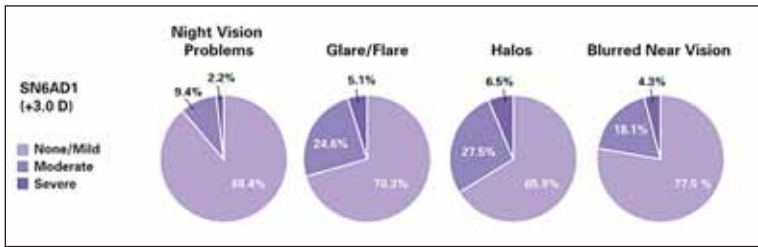
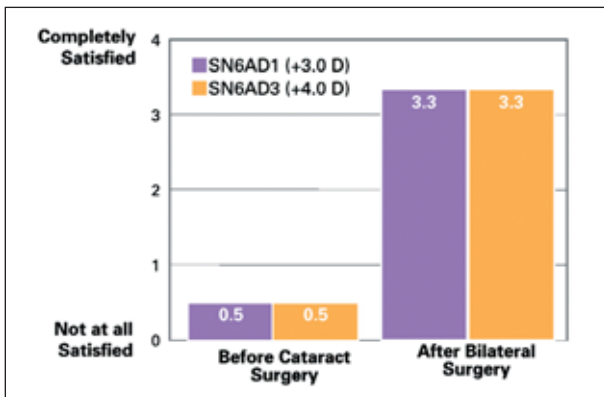

Figure 4. Visual disturbances 6 months after second-eye implantation of the AcrySof IQ ReSTOR IOL +3.0 D (SN6AD1).
Figure 5. Patients' overall postoperative satisfaction without glasses with both models of the AcrySof IQ ReSTOR IOL.
Figure 5. The WaveLight FS200 femtosecond laser's Advanced Suction Technology. First, a disposable plastic ring (A) makes contact with the sclera. After the surgeon applies suction, the cone that is attached to the laser's bridge (B) is suctioned to the scleral suction ring before the surgeon begins ablation.
symptoms 6 months after bilateral implantation (Figure 4). Both the +3.0 D and the +4.0 D models have demonstrated a high rate of patient satisfaction (Figure 5).